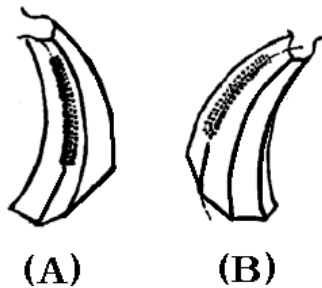

Fig. 5-3 Ideal condition of teeth contact of spiral bevel gears when the tractor is driven forward
- (3) For the condition of teeth contact, see Fig. 5-3